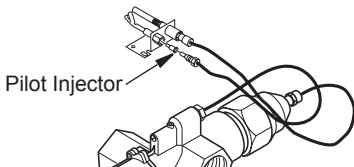

Figure 14 - Installing Propane/LP Pilot Orifice
1. Gently loosen and remove the pilot line connection from the bracket (see Figure 14).
2. Replace the injector (see Figure 14) with the propane/LP pilot injector with the red stripe.